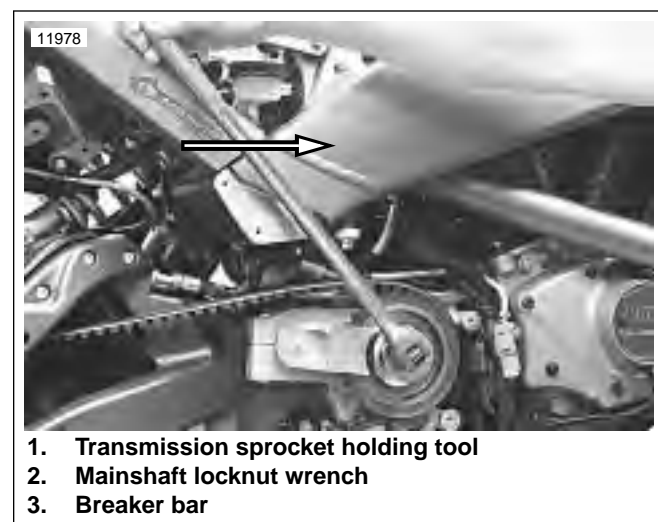

Figure 6-101. Removing Transmission Sprocket Locknut
- See Figure 6-101. Place transmission in neutral. Install the P3/Blast SPROCKET HOLDING TOOL (Part No. B-43982) to hold the sprocket.
- Remove transmission sprocket nut (3) from main drive gear (5) using MAINSHAFT LOCKNUT WRENCH (Part No. HD-94660-37B or HD-46288) and a breaker bar.
- Remove secondary drive belt from transmission sprocket. Remove transmission sprocket (4) from main drive gear (5).